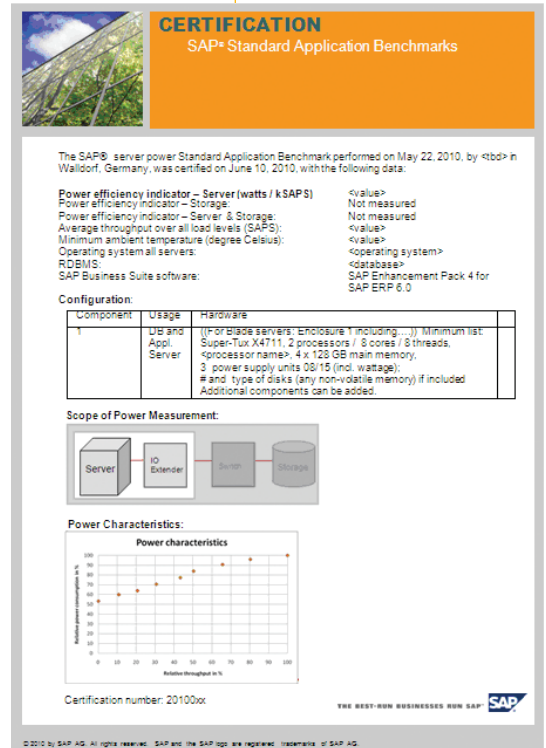

FIGURE 3 ▲ An example of what an SAP power benchmark certificate looks like
The results of the SAP power benchmarks are verified and certified by SAP on behalf of the SAP Benchmark Council. The certificate (see **Figure 3**) contains an overview of the benchmark results; interested customers can also request more detailed results information from SAP (by emailing benchmark@sap.com) or from the hardware partner. This certificate includes:
- The **scope of power measurement graphic**, which shows the rough setup of the tested components that have their own power supply. This indicates which components of the setup were included in the calculation of the power efficiency indicator (represented in Figure 3 by the non-greyed-out area of the scope of power measurement graphic). For example, it will show that the SAP server power benchmark includes only the server components.